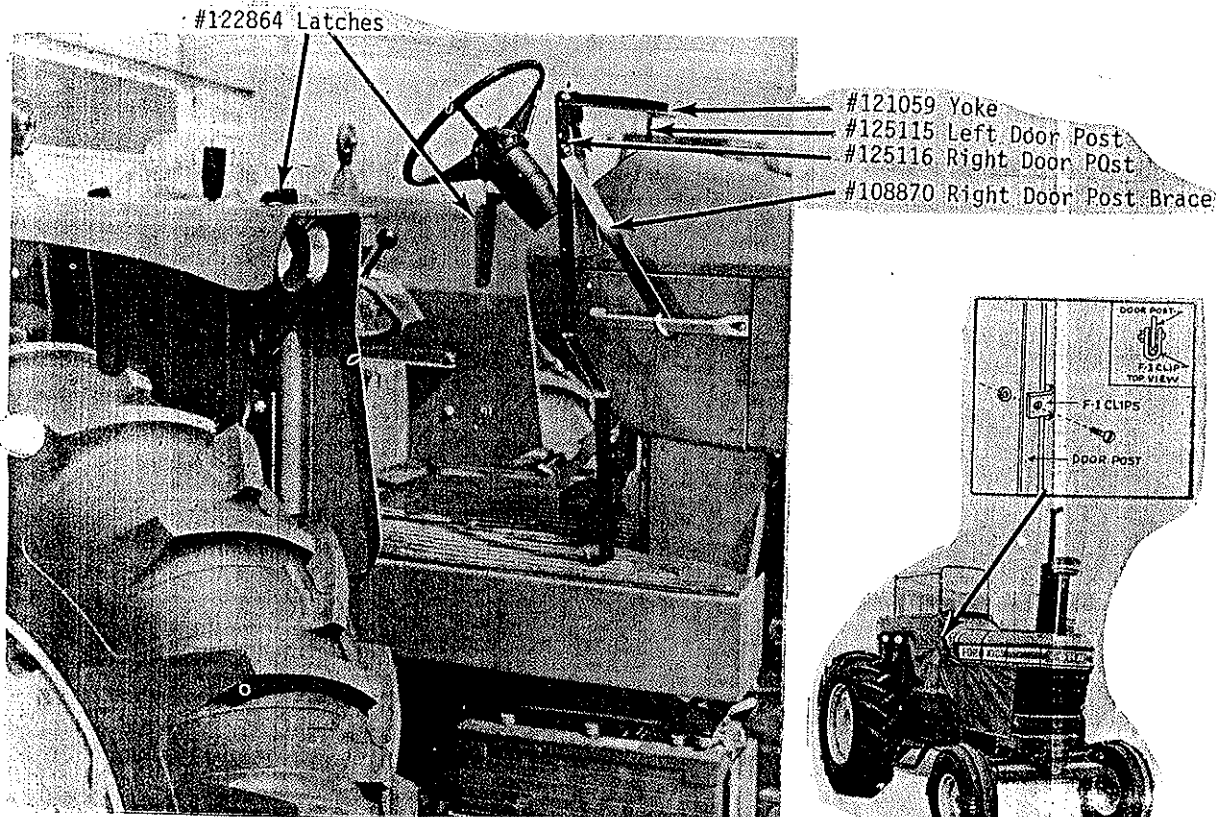

FIGURE 1
1. Bolt #108869 Left Door Post Brace to #125115 Left Door Post using 5/16" x 3/4" bolts and nuts. Then bolt bottom of brace to grab handle using 'U' bolts and nuts. Do not tighten bolts and nuts at this time. (See Fig. 1)
3. Bolt #121059 Yoke to top of door posts using 1/4" x 1" bolts and nuts. Do not tighten at this time. (See Fig. 1)
4. Set door post down on platform so holes in bottom of door posts are 13" from front edge of platform and 5 1/2" in from outside edge. Mark and drill 1/4" hole in platform. Bolt door posts to platform using 5/16" x 1 1/4" self tapping screws. (See Fig. 1) Be sure to check under side of platform to be sure no oil lines, etc., are at this location.
5. Check to see door posts are straight up and down. Then tighten 'U' bolts to grab handles. (See Fig. 1)
6. Remove yoke and bolts holding braces to door posts. Slide hems in fabric over door posts and insert yoke in top hem and replace and tighten bolts. (See Fig. 1)